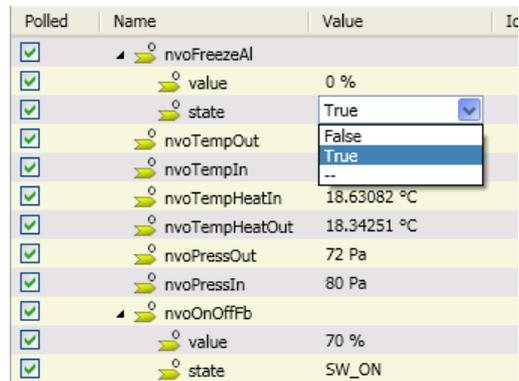

Figure 79: Change Data Point Value in Watch View
1. Click on the value of a data point. Depending on the data point type, a drop down list, a number input, or a text input box is displayed (see Figure 79).